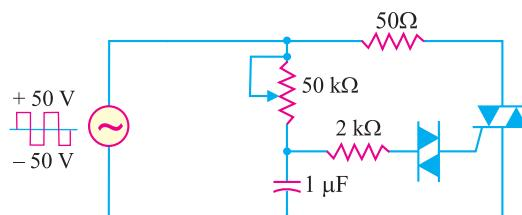

Fig. 21.35
7. If the triac of Fig. 21.35 has 1V across it when it is conducting, what is the maximum current through the 50Ω ? [0.98 A]